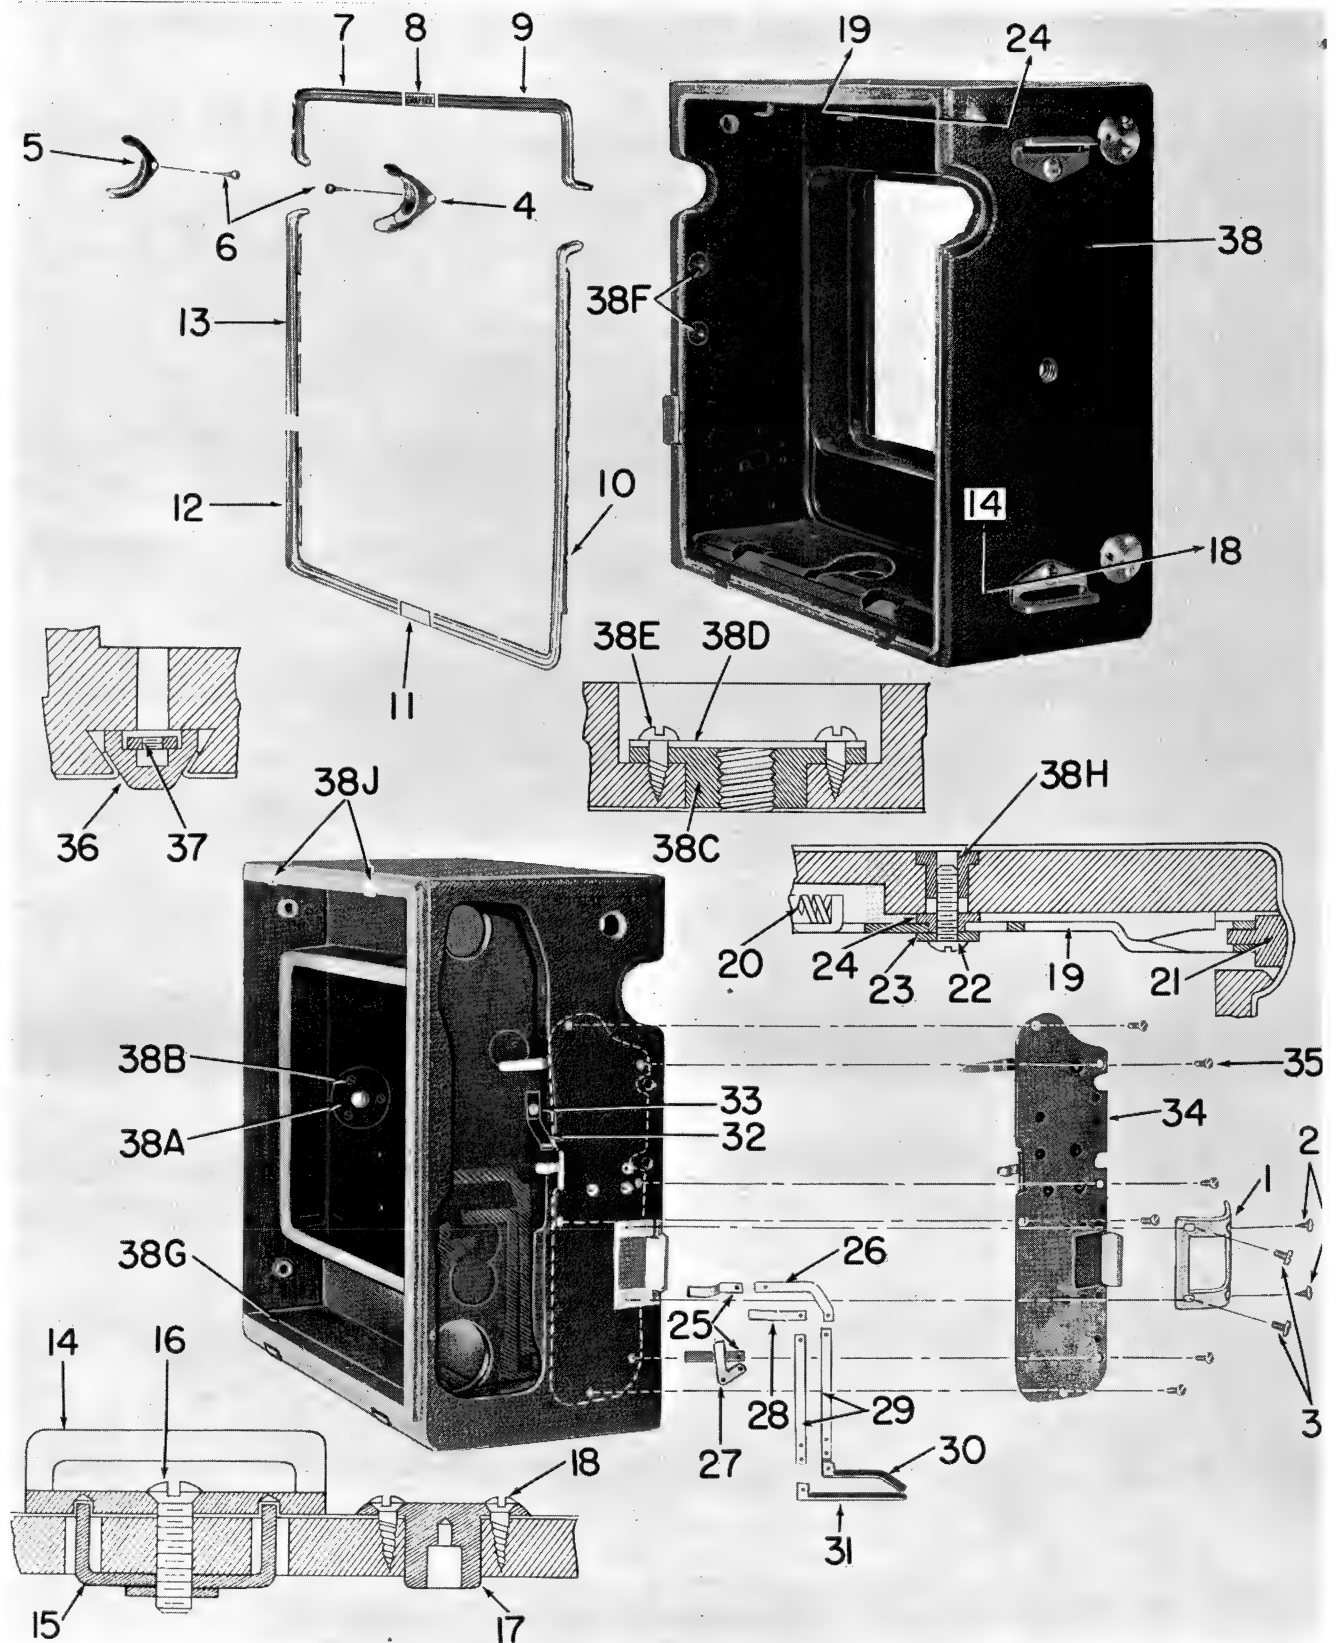

Figure 12. Body, Exploded View
(c) From the bed hinge, remove two wood screws (31, figure 2). Remove four yoke guide case screws (32) that are screwed into machine nuts (37, figure 12) located in the case feet (36).
(a) Place the bed in position in the camera case and reassemble four yoke guide case screws (32, figure 2) that are screwed into the machine nut (37, figure 12) located in the foot (36). Assemble two wood screws (31, figure 2).
(a) Remove the release slide plate (1, figure 12).
(f) Remove six wood screws (35, figure 12) that secure the body release plate assembly (34), and remove the plate assembly.
(a) Before replacing the body release plate assembly (34, figure 12) the mounting holes that are used to mount the rangefinder base and housing should be covered with transparent tape to prevent the tapped holes from becoming plugged with adhesive.
2. To remove the bottom tripod socket it is first necessary to remove the bed assembly (27, figure 2) as described in paragraph VI.A. 1. Remove three round head wood screws (38E, figure 12) and remove the cover plate (38D) and tripod socket (38C).